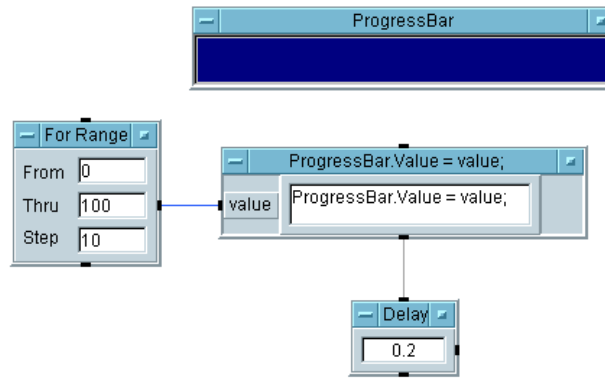

Figure 10-27. Using the ActiveX Control “ProgressBar”
5. To slow down program execution so that you can see the `ProgressBar` updating, select `Flow` \Rightarrow `Delay` and place the object to the right of the `For Range` object. Set it to `.2`. Connect the `ProgressBar` sequence output pin to the `Delay` object sequence input pin, as shown in Figure 10-27, and run the program.